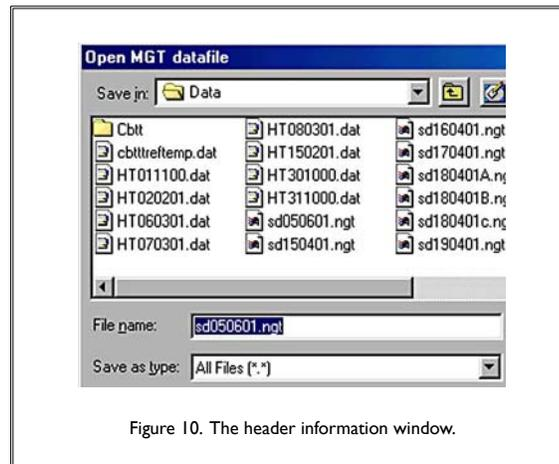

Figure 10. The header information window.
- Start the application by pressing the arrow in the upper left-hand corner of the application window. A small window, labeled “Header;” will pop up. Fill in the required fields as necessary. An example is shown below in Figure 10.